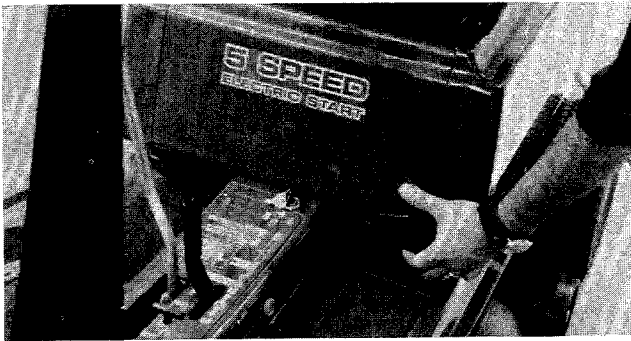

FIGURE 3.
- ← 1. Release the rear cover latch and raise the rear cover. See figure 3.